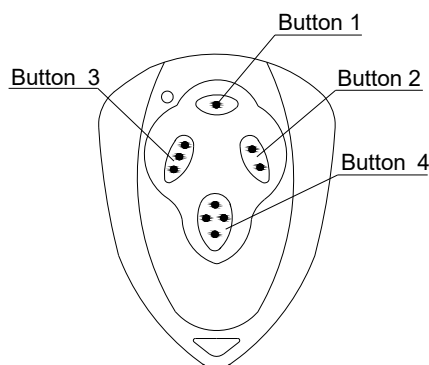

Fig.7
- The remote control works in a single channel mode. It has four buttons. See Fig.7 remote control. The function of button 1, button 2, and button3 are the same. With each press of the remote control button which has been programmed, the gate will close, stop, open or stop cycle. Button 4 is available for pedestrian mode.